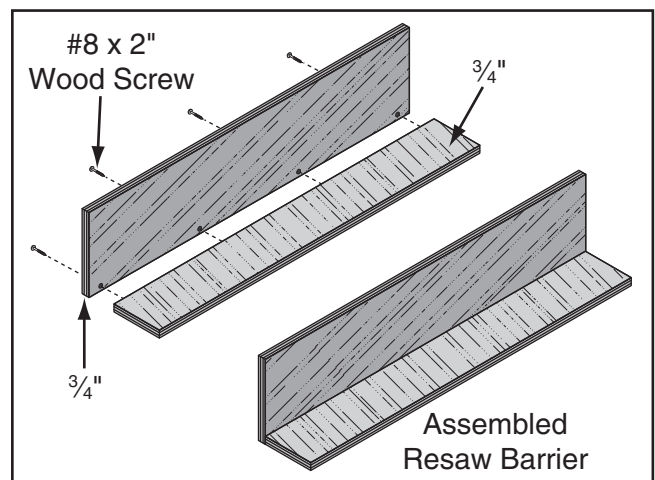

Figure 72. Resaw barrier.
3. Glue the end of the 3" board, then clamp the boards at a 90° angle with the larger board in the vertical position, as shown in **Figure 72**, then fasten together with the wood screws.